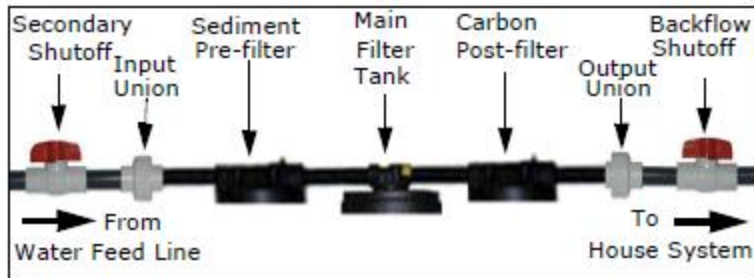

Figure 9 Arrangement of Unions and Valves in TWFS Installation
The following installation procedure assumes an installation similar to that shown in Figure 9. Although Figure 9 illustrates use of PVC, the same arrangement of components is applicable to copper components, if preferred, using copper/PVC adapters at the inlet to the Sediment Pre-filter and outlet from Carbon Post-filter (see Figure 10 below). Assure unit is installed in only a vertical orientation and NOT in direct sunlight.
- 5.2 Install input side of input union to output side of secondary shutoff (if installed), or otherwise directly to water source line. See Figure 9 on page 6.
- 7.2 Install output side of output union to input side of water backflow shutoff valve (if installed), or directly to house water system pipe if no backflow valve. See Figure 9 on page 6.